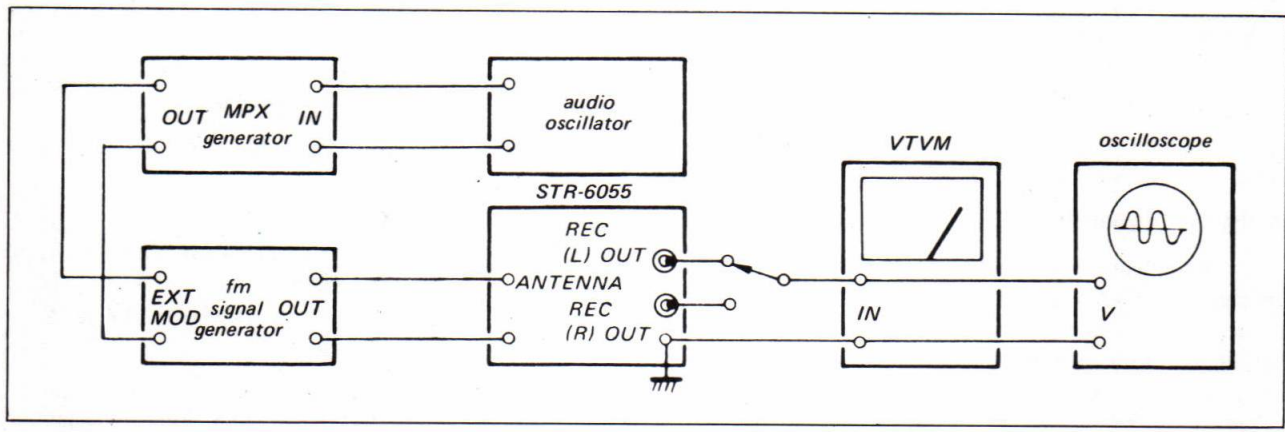

Fig. 3-8. Fm stereo separation adjustment test setup
- Connect the equipment as shown in Fig. 3-8. Set the fm signal-generator's control as follows:
- With the equipment connected as shown in Fig. 3-8 set the MPX stereo generator controls as follows: